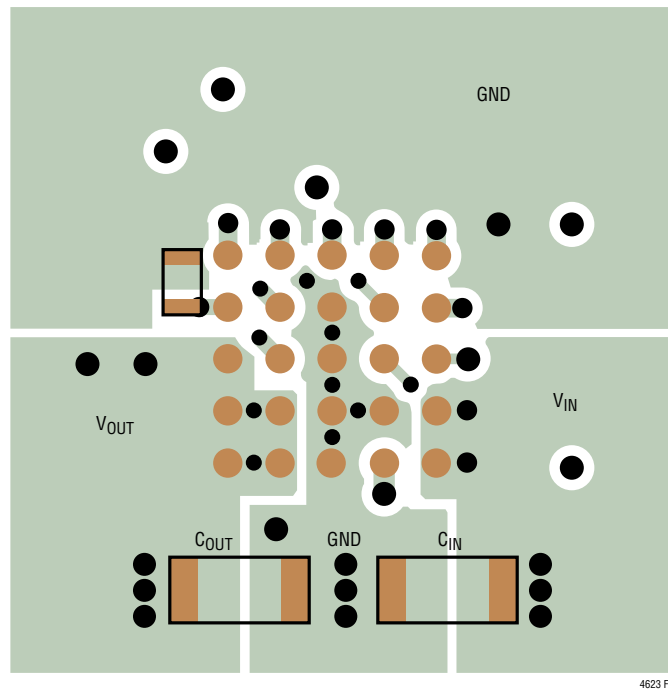

Figure 23. Recommended PCB Layout
- Bring out test points on the signal pins for monitoring. Figure 23 gives a good example of the recommended layout.